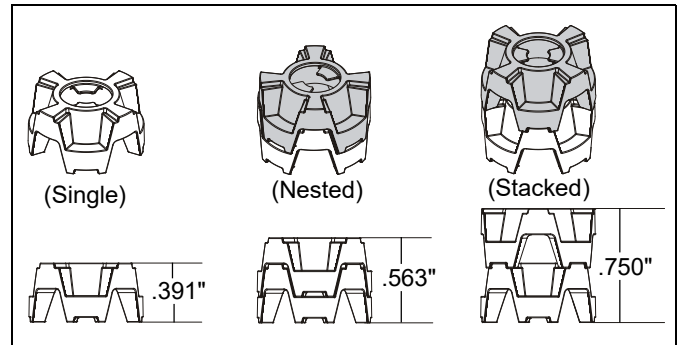

Figure 12
NOTE: The nesting spacers (MA) may be used separately, or put two together in different configurations to create different size spacers. (See Figure 12)